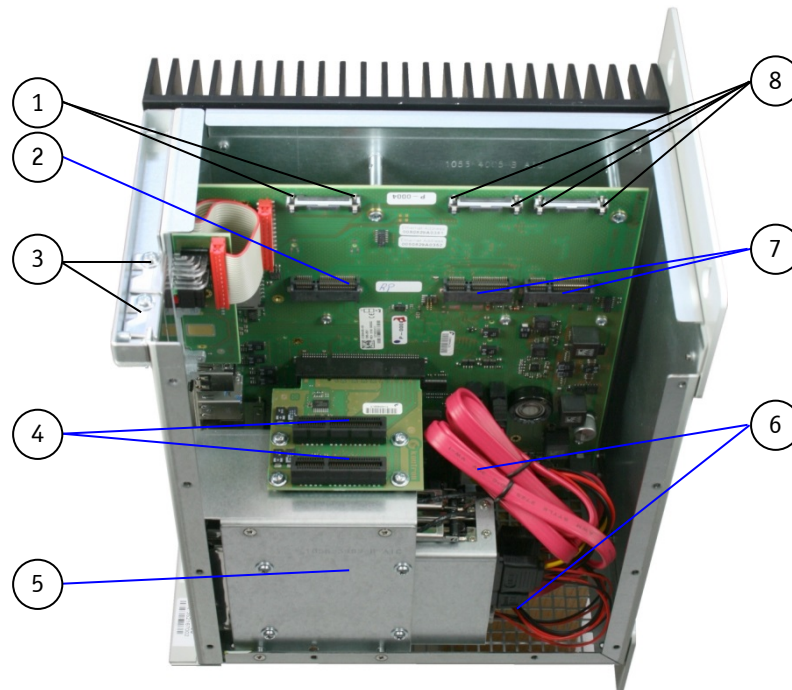

Fig. 41: KBox C-101-2 without top and right side cover (shown with a PCIe riser card)
6. For a better accessibility of the internal sockets (PCI/PCIe/Mini PCIe and mSATA SSD), you may also remove the right side cover of the KBox C-101 (Fig. 41). Loosen the externally accessible fastening screws (Fig. 28, pos. 2) that secure the right side cover (Fig. 40 and Fig. 28, pos. 3). Pull the right side cover out, to detach it from the sideways mounted bolts. Put the right side cover and the screws aside for later use.
3. Locate the PCIe mini card socket and the corresponding fixing clips (Fig. 41, pos. 1).
4. Insert the PCIe mini card into the socket (Fig. 41, pos. 2) at an angle of approx. 45° and push it down until the fixing holes of the card are aligned with the fixing clips.
3. Locate the mSATA sockets and the corresponding fixing clips. (Fig. 41 and 8).
4. Insert the mSATA SSD card into the corresponding socket (Fig. 41, pos. 7) at an angle of approx. 45° and push it down until the fixing holes of the card are aligned with the fixing clips.